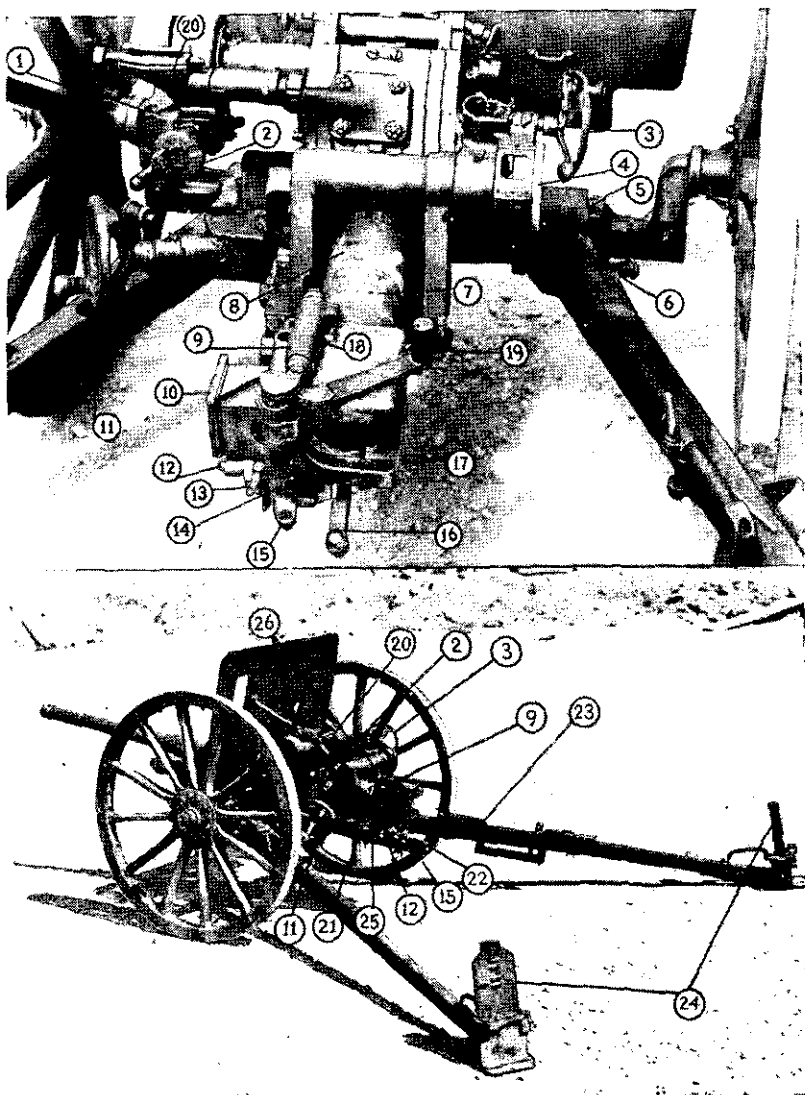

Figure 126.—Two views of Model 94 (1934) 37-mm gun, showing parts.
- (1) The long, slender barrel.
- (2) The low mount.
- (3) The spade brackets on the trails (fig. 126).
(4) The marking 砲九四式三七七 which is on the barrel. (This marking, which is read *Kyuyon Shiki Sanjunana Miri Ho* from right to left, means “94 model 37-mm gun.”)
(Key to fig. 126)